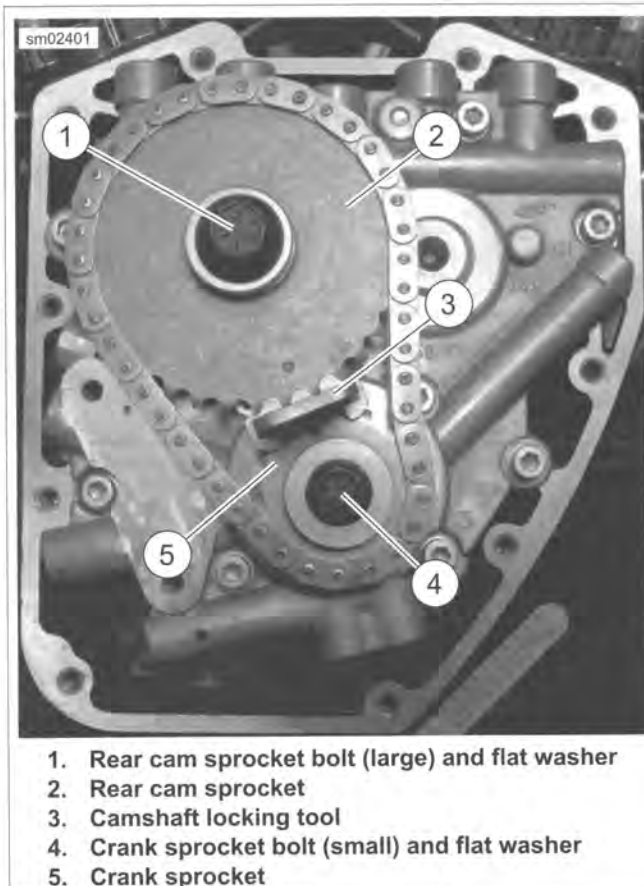

Figure 3-88. Cam Support Plate Assembly
3. See Figure 3-88. Install CRANKSHAFT/CAMSHAFT SPROCKET LOCKING TOOL (Part No. HD-47941) between cam sprocket (2) and crank sprocket (5).